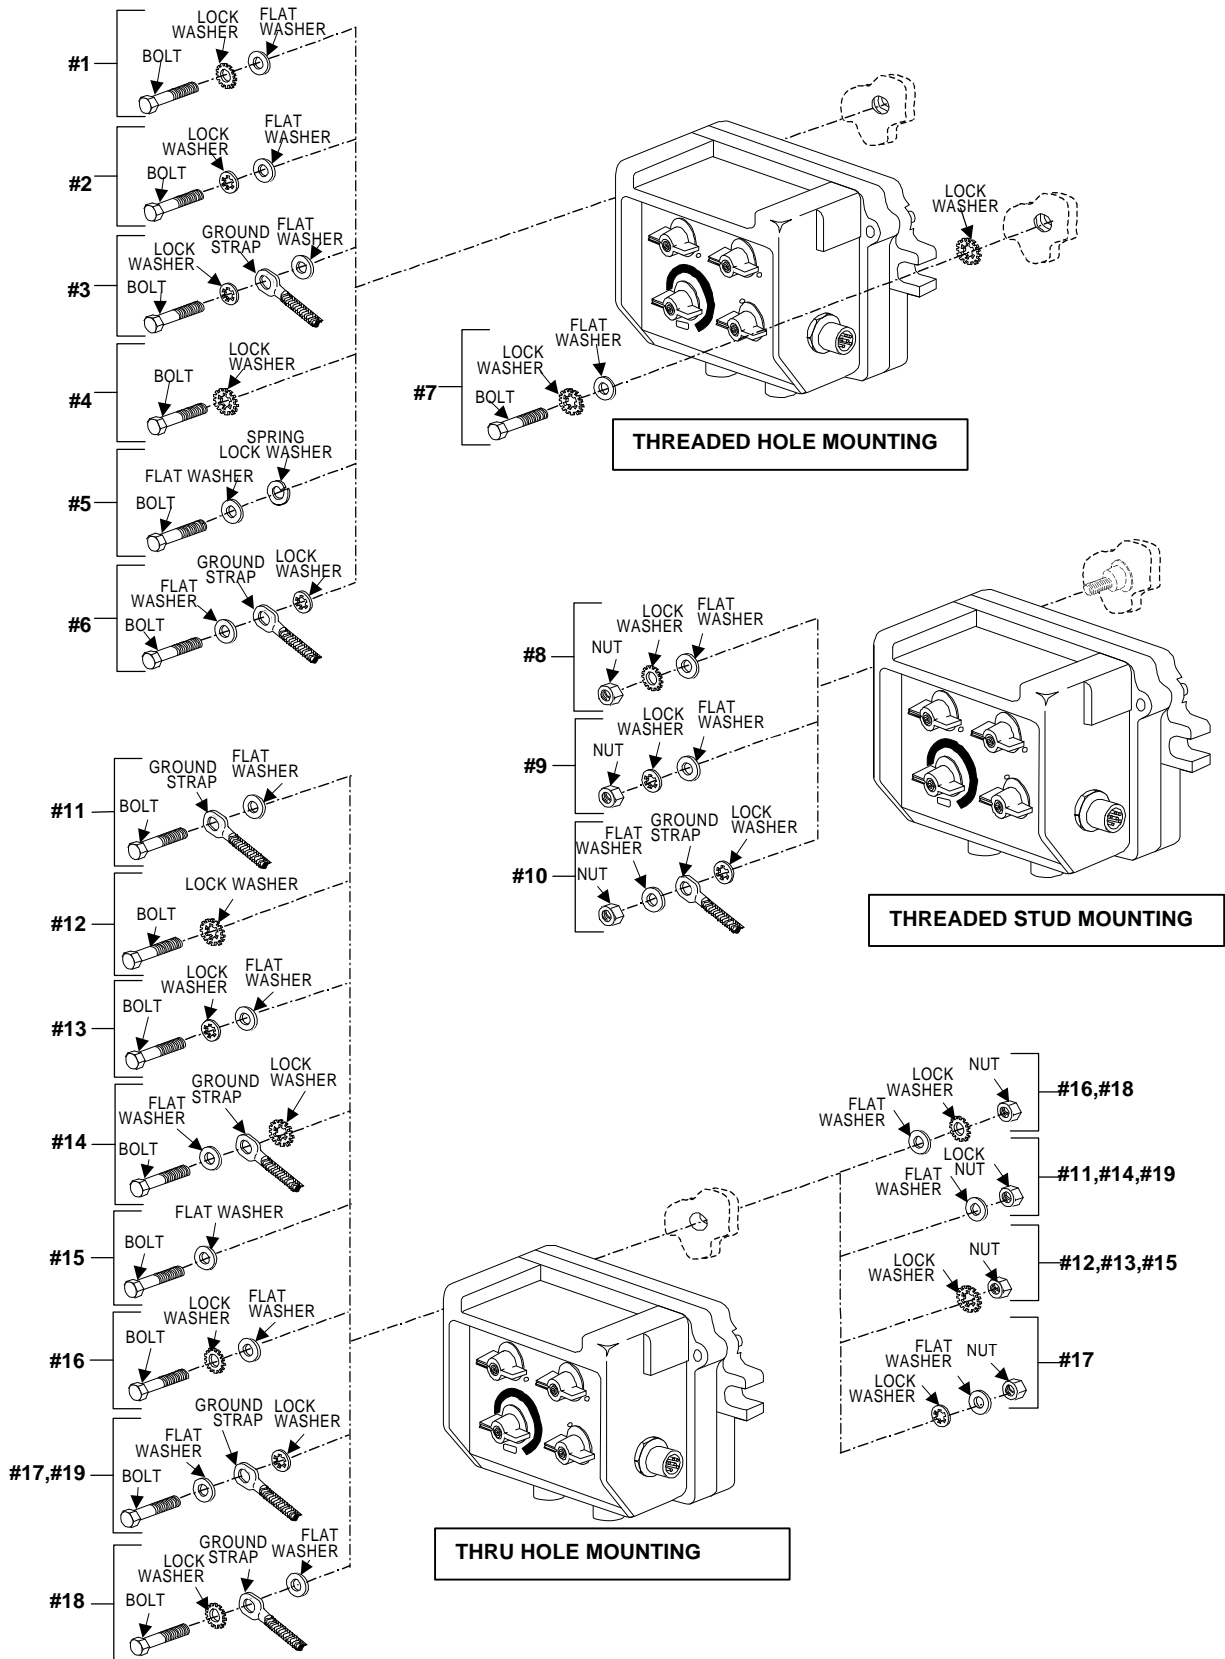

Figure 3-7. FFCS Mounting Hardware Sequences
- Table 3-2 FFCS Mounting Hardware (Fig. 3-7)
Table 3-2. FFCS Mounting Hardware (Figure 3-7)